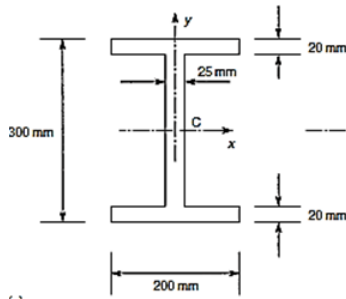

Figure 3
- (b) The cross-section of a beam has the dimensions shown in Figure 3. If the beam is subjected to a negative bending moment of 100 kNm applied in a vertical plane, determine the distribution of direct stress through the depth of the section. [7M]